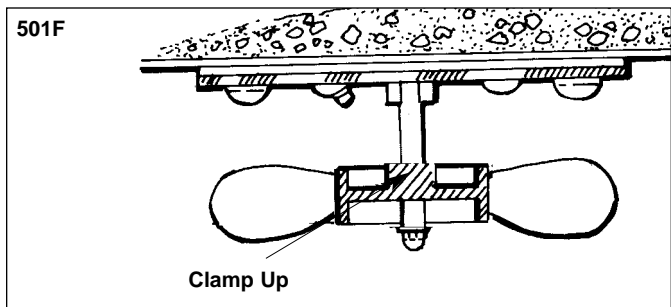

Figure 2-27. Evaporator Fan Assy.
**NOTE:** Clamp position should always be UP (Figure 2-27).